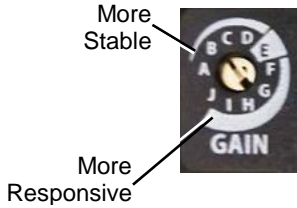

Figure 33: Selectable Gain Switch
**NOTE:** The gain switch is LIVE meaning that regardless of the Auto-Tune selection, the gain settings can be adjusted at any time during operation by changing the selectable Gain switch position. See Figure 33: Selectable Gain Switch.
Use the Selectable GAIN Switch to adjust the gain at any time during operation. This adjustment takes effect immediately. For faster response select settings above "E" (F-J). For a more stable response, select settings below "E" (B-D). See Figure 33: Selectable Gain Switch.